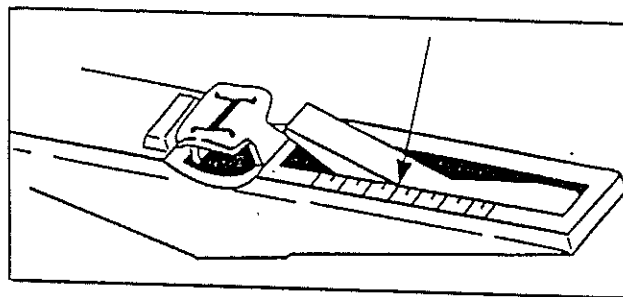

Fig. 4
4. Read the belt tension by observing the point where the top side of the indicator arm crosses the numbered scale on the gauge body. (See Fig. 4)